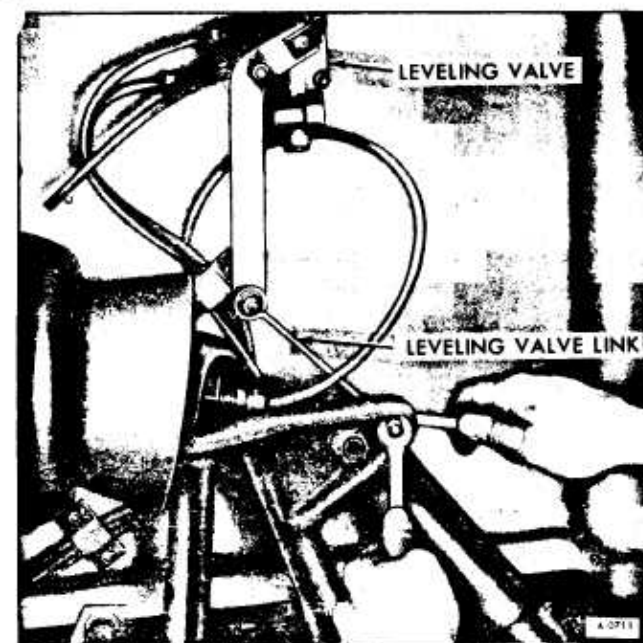

Figure 7—Disconnecting Height Control Valve Link
2. Referring to Figure 7, disconnect leveling valve link and move arm down to open exhaust valve and let air out of bellows.